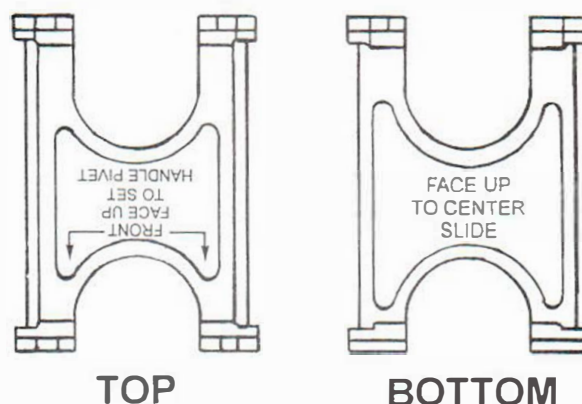

Figure 34. TT-150 Tool
- E. Using other side of the TT-150 tool, install tool to position handle pivot spring assembly with “**FACE UP TO SET HANDLE PIVOT**” facing up. *See Figures 34 and 35.*